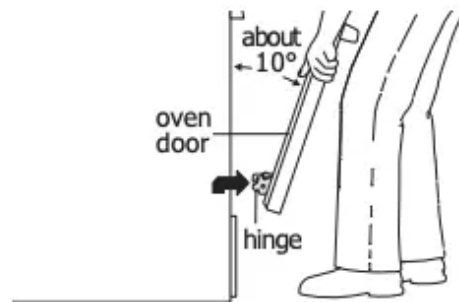
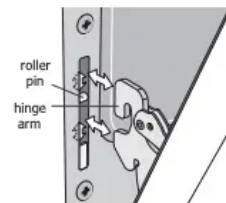

Figure 26: Holding door for removal
Figure 27: Replacement and location of hinge arm and roller pin
- 3. Firmly grasp both sides of oven door along the door sides. Do not use the oven door handle (See Figure 26).
- 4. Close the door to approximately 10 degrees from the door frame (See Figure 26).
- 5. Lift the oven door hinge arms over the roller pins located on each side of the oven frame (See Figure 27).
- 1. Firmly grasp both sides of oven door along the door sides. Do not use the oven door handle (See Figure 26).
- 2. Holding the oven door at the same angle as the removal position, seat the hook of the hinge arm over the roller pins located on each side of the oven door frame (See Figure 26 and Figure 27). The hook of the hinge arms must be fully seated onto the roller pins.